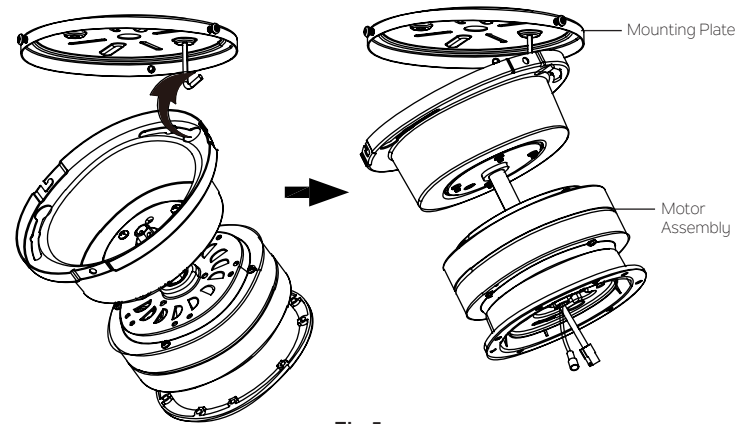

Fig.5
**Step 2.** Hook the motor assembly onto the mounting plate as shown. You can now proceed with the electrical wiring of your fan. (Fig.5)